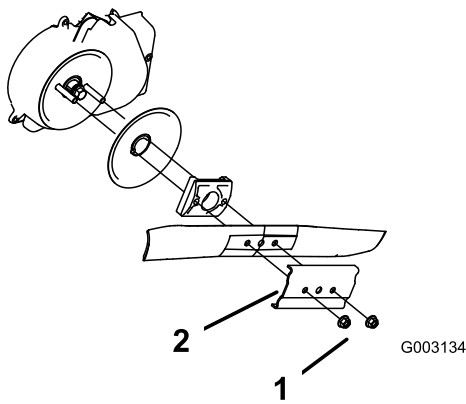

Figure 32
3. Remove the 2 blade nuts and the stiffener (Figure 32).
4. Remove the blade (Figure 32).
5. Install the new blade (Figure 32).